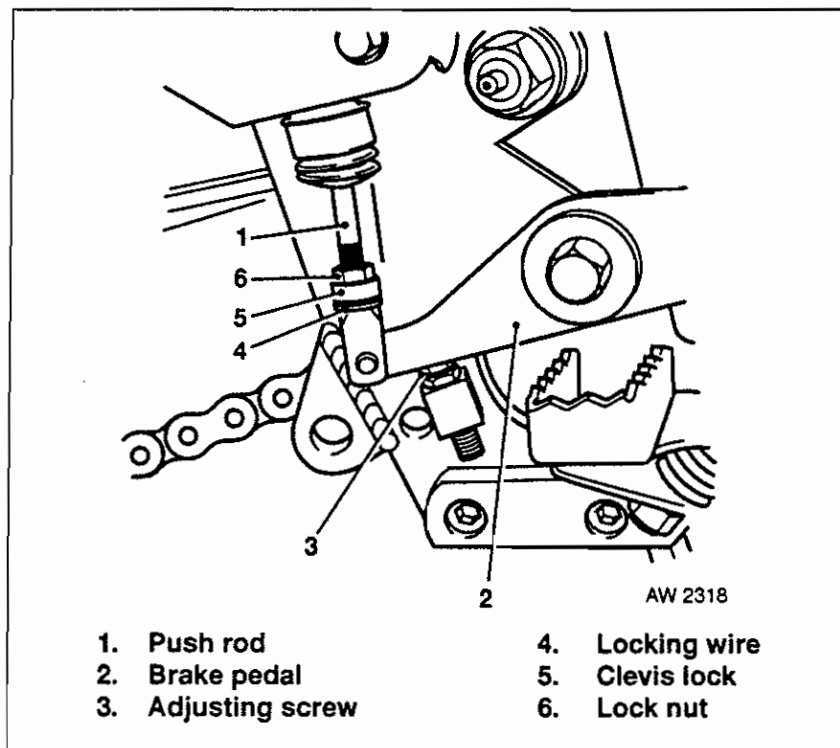

Fig 12.3 Free Play Adjustment
(2) Fig 12.3 refers. Depress brake pedal only as far as necessary for push rod (1) to contact master cylinder piston (a significant resistance can be felt). Hold pedal in this position while making adjustment in steps (3) to (7).
(3) Measure clearance between brake pedal (2) and adjusting screw (3). Clearance should be 1.6 mm ($\frac{1}{16}$ in).
(4) If clearance is not 1.6 mm ($\frac{1}{16}$ in) use long nose pliers and remove and discard locking wire (4).
- (5) Fig 12.3 refers. Remove lock wire, unsnap clevis lock (5) and swing out of way.
- (6) Loosen lock nut (6).
- (7) Lengthen or shorten push rod (1) by rotating it until clearance is 1.6 mm ($\frac{1}{16}$ in).
- (8) Tighten lock nut (6).
- (9) Snap clevis lock (5) over clevis.
- (10) Install new lock wire (4).